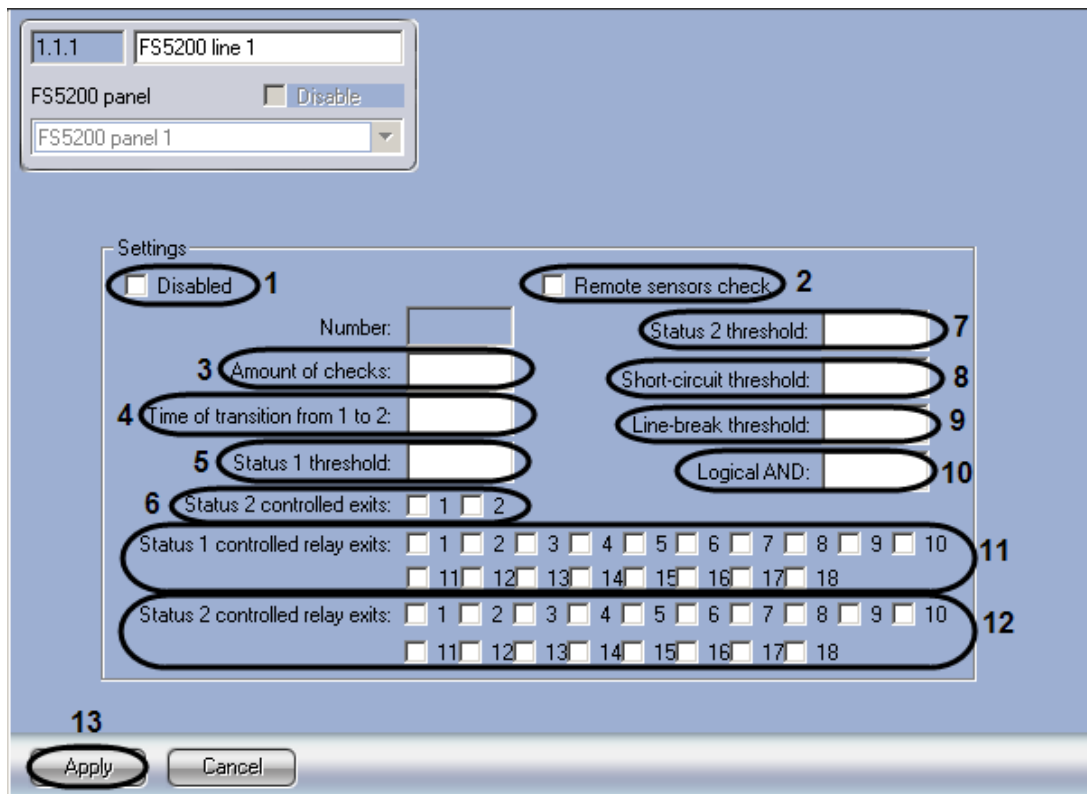

Figure 3.5—4 Setting panel of the Line object
2. To stop line inquiry set the **Disabled** checkbox (Figure 3.5—4, 1).
3. To check remote sensors set the **Remote sensors check** checkbox (Figure 3.5—4, 2).